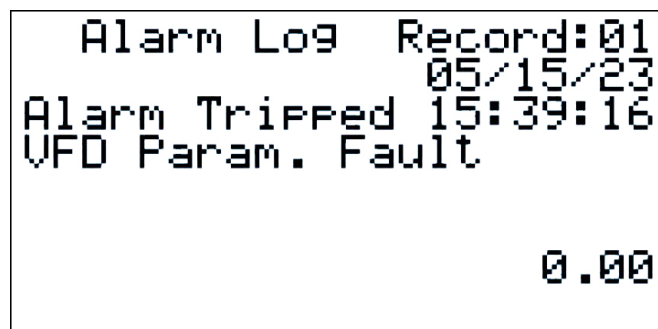

Figure 112
3.3 Alarm Log (Figure 112)
The Alarm Data Logger Screen is accessible from the Alarm Reset screen (See Figure 112) by pressing the **ENTER** key. This screen shows records of the alarm log. The bottom two lines will show the pertinent data that was recorded when the alarm occurred. Use the UP and **DOWN** keys to view other records. To return to the home screen, press the **Esc** button.